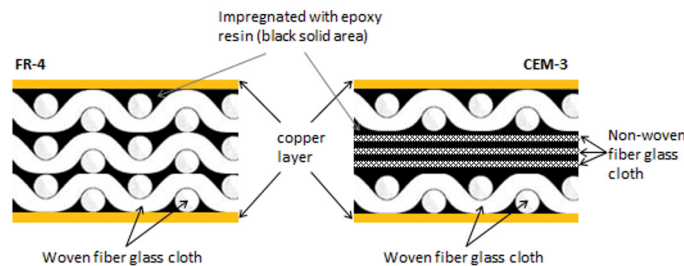

Figure 7: Cross section of a FR-4 and CEM-3 PCBs. Not drawn to scale; for illustration purposes only.
FR-4/CEM-3 board construction consists of the following layers (Figure 7):
- FR-4 (woven fiber glass fabrics reinforced epoxy laminate, Figure 7) sheet or CEM-3 (composite epoxy material constructed from both woven and non-woven fiber glass fabrics). These two materials have excellent electrical insulation properties but have very poor thermal conductivity. Both are priced economically and are widely available. For detail specifications on PCBs, it is best to refer to a standard generated by Association Connecting Electronics Industries, (ipc.org), IPC-4101C "Specification for Base Materials for Rigid and Multilayer Printed Boards" standard.